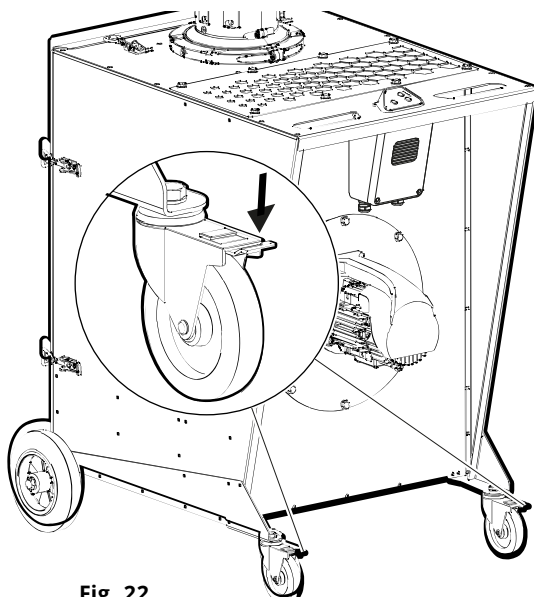

Fig. 22
1. Lock the lockable caster wheels (Fig. 22).
1. Lock the lockable caster wheels (**Fig. 22**).